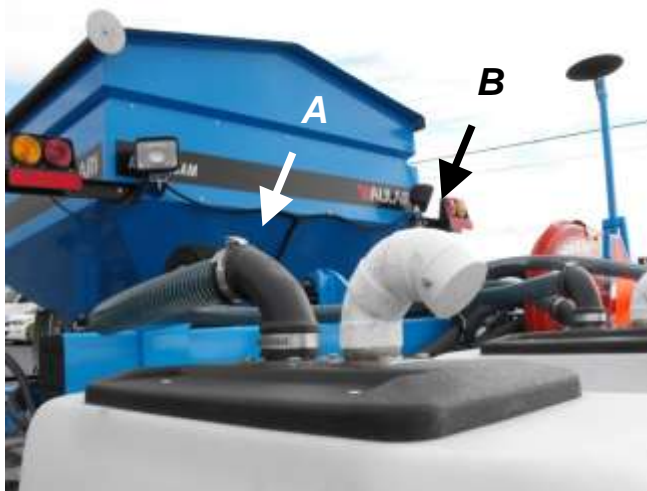

Figure 12L
the other end to the 90 degrees installed on top of the seeding unit. [Figure 12L, **A**]. Make sure that you remove the red plugs before connecting the hoses.
12. Remove the white plug on the air exhaust [Figure 12L, **B**]. This exhaust is required to release the pressure created by **Aulari** system.